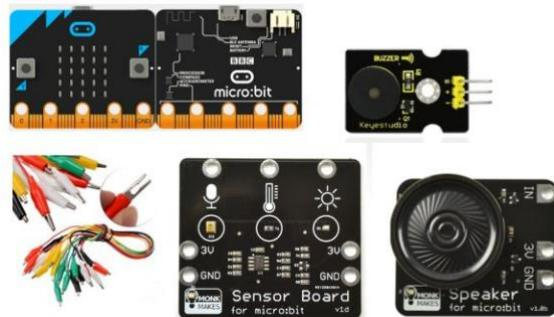

Figure 4: L-R: micro:bit, buzzer, alligator clips, MonkMakes Sensor Board, speaker
**Materials list (Figure 4):**